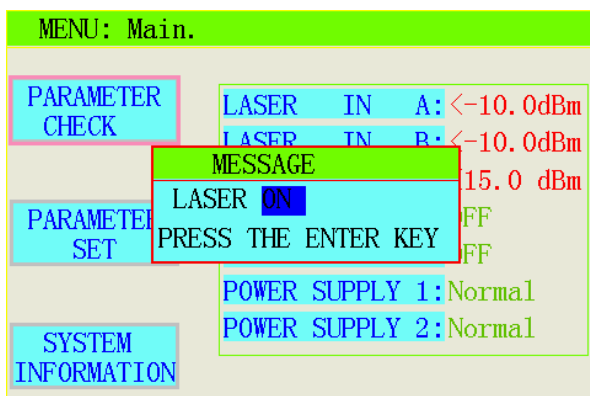

Figure 15
4.3 Laser switch, whether in any state to turn on or off the laser, press LASER ON/OFF,LCD to display the laser switch interface (Figure 15/16), then press ENTER to select and confirm.